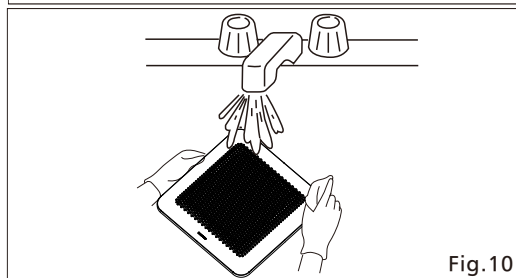

Fig.10
- ❗ The adaptor of product must be installed upward. (Fig.10)
2. Wash and clean grille. (Use non-abrasive kitchen detergent, wipe dry with clean cloth.)(Fig.10)